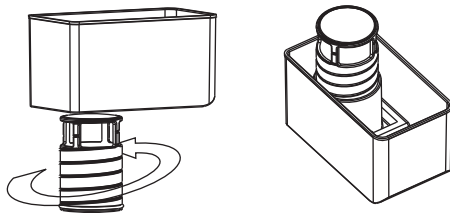

Figure 27: assembling the integrated foam adjuster
2. Familiarize yourself with the assembly of the foam adjuster which will need to be removed periodically for cleaning. When reassembling make sure that the o-ring at the bottom of the foam adjuster enters the cup smoothly. Initially assemble the foam adjuster to its uppermost position (fig 27).